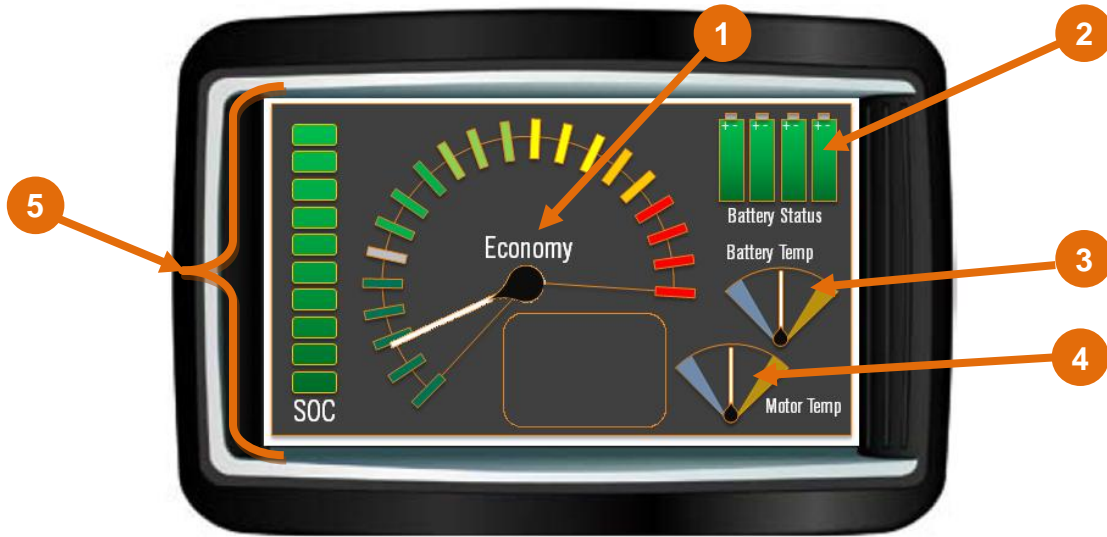
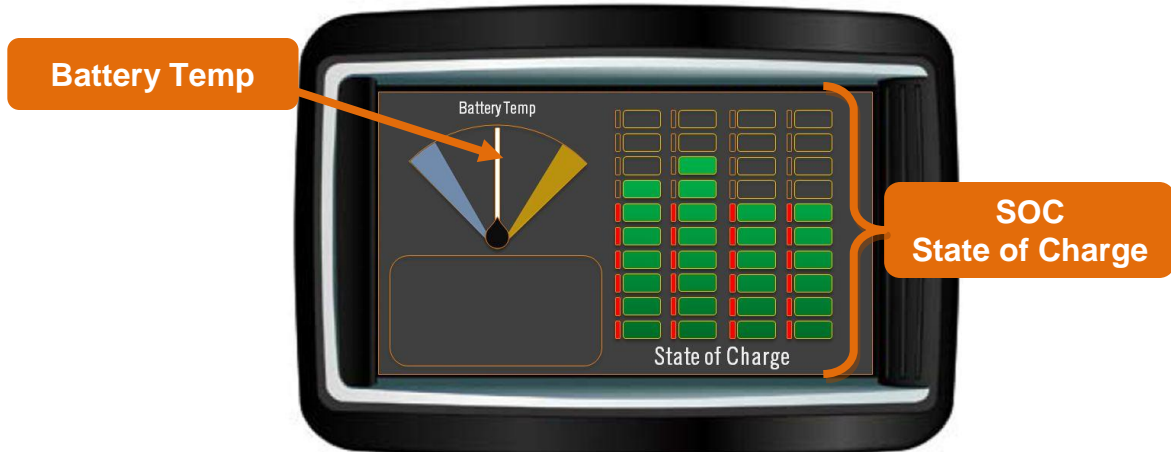

Figure 4.3
Figure 5.5
When the vehicle is started or placed on charge, the **Start-Up** screen (Figure 4.2) with the **SMITH™** logo will display. It may take up to 45 seconds for the **Drive Mode** screen (Figure 4.3) or the **Charge Mode** screen (Figure 5.5) to display.
EVIS Display – Drive Mode (Figure 4.3)
When the vehicle is placed on charge, the **Start-Up** screen (Figure 4.2) with the **SMITH™** logo will display. It may take up to 45 seconds for the **Charge Mode** screen (Figure 5.5) to display.
• The EVIS Display in Charge Mode – No Faults/Warnings (Figure 5.5)